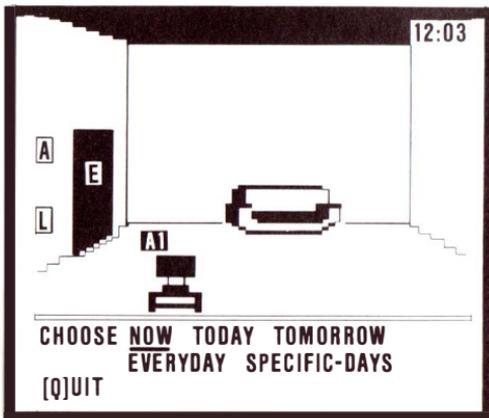

FIGURE 27
- After choosing **OFF**, **ON**, and the intensity, the prompt line will say: **CHOOSE NOW, TODAY, TOMORROW, EVERYDAY, SPECIFIC-DAYS**. See Figure 27.